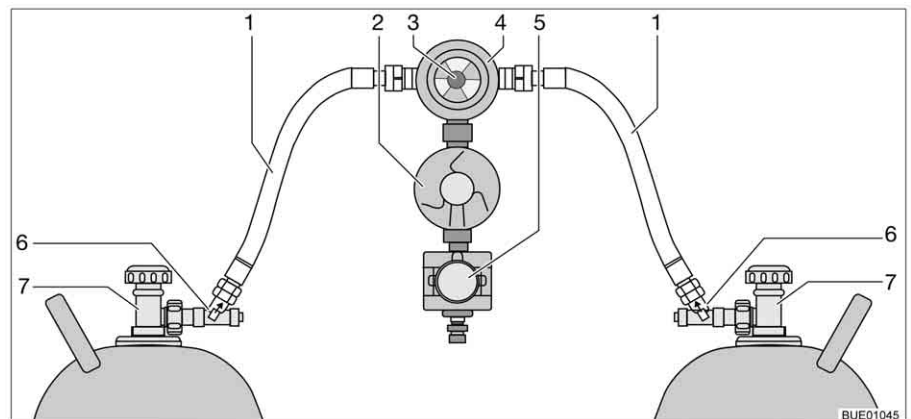

Fig. 160 Crash protection unit switching facility
The crash protection unit consists of two flow restrictors with manual release button (Fig. 160,6) a reversing valve (Fig. 160,4) with pressure regulator (Fig. 160,2), an electrovalve (Fig. 160,5) and the operating unit with tricoloured LED. The reversing valve is installed between the two gas tubes (Fig. 160,1).
Use the knob (Fig. 160,3) on the reversing valve to select which of the gas bottles is to be used as a primary bottle and which is to be used as a reserve bottle.
Only the electrical functions can be switched at the operating unit (Fig. 161). The regulator taps on the gas bottles (Fig. 160,7) and the release buttons (Fig. 160,6) must be opened manually.
- Open the regulator taps of the gas bottles (Fig. 160,7).
- Press the release buttons (Fig. 160,6) successively for 10 seconds.
- Use the knob (Fig. 160,3) on the reversing valve (Fig. 160,4) to select the gas bottle which is to be the primary source of gas (primary bottle). Always turn the knob as far as it will go.
- Close the regulator taps of the gas bottles (Fig. 160,7).